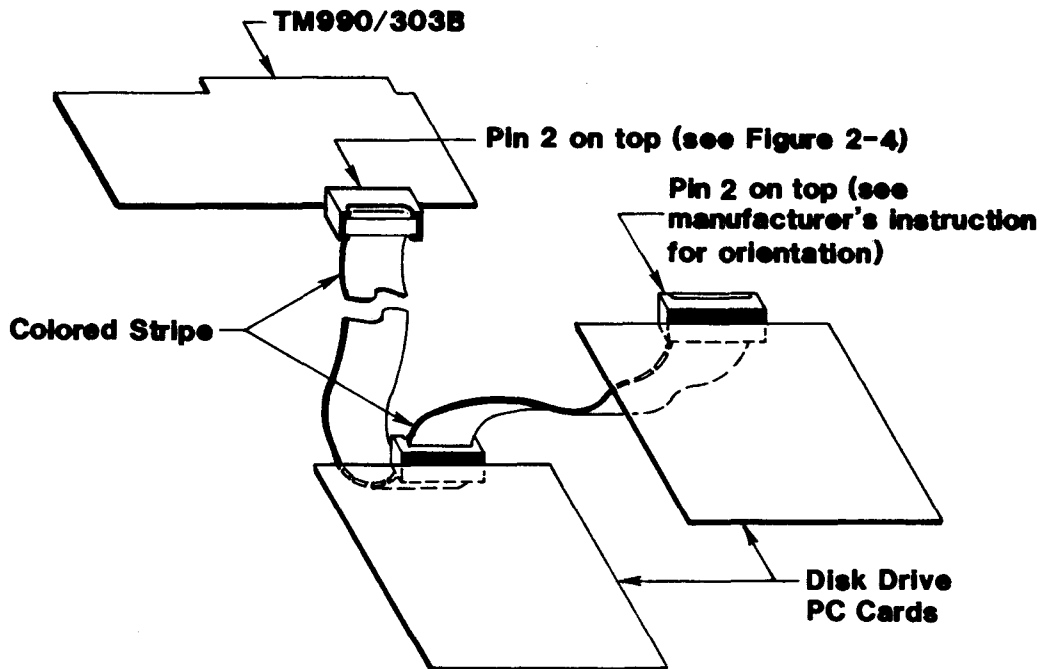

FIGURE 2-5. TM 990/527 CABLING BETWEEN CONTROLLER AND EIGHT-INCH DRIVES
- Connect one or both of the disk drive cable connectors to the back of the disk drive(s). See the manufacturer's installation instructions for proper orientation of pin 1 on the disk drive connector. Pin 1 on the TM 990/527 cable is denoted by a diamond engraved in the connector on the side near the colored stripe. See Figure 2-5 for orientation. If pin 1 is on top of the edge connector at the disk drive, the diamond on the connector must also be on top, oriented with that pin.